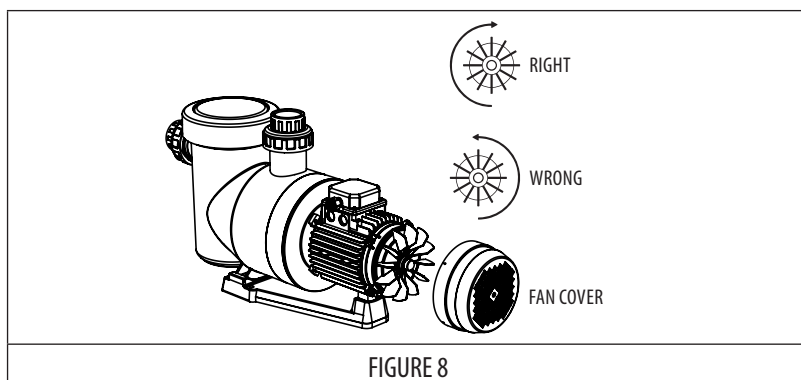

FIGURE 8
- Check that the motor is turning in the right direction (look at the fan located at the back of the motor). (FIGURE 8).